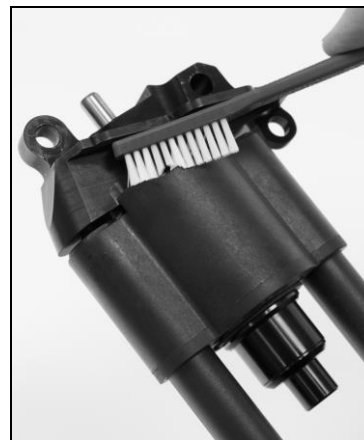

Figure 8
3. Use a plastic bristled brush and a military-grade cleaner/lubricant to remove dirt and debris from the locking mechanism on the mounting block. See Figure 8. Excess lubricant should be wiped away from moving parts as it may attract dirt and grit.